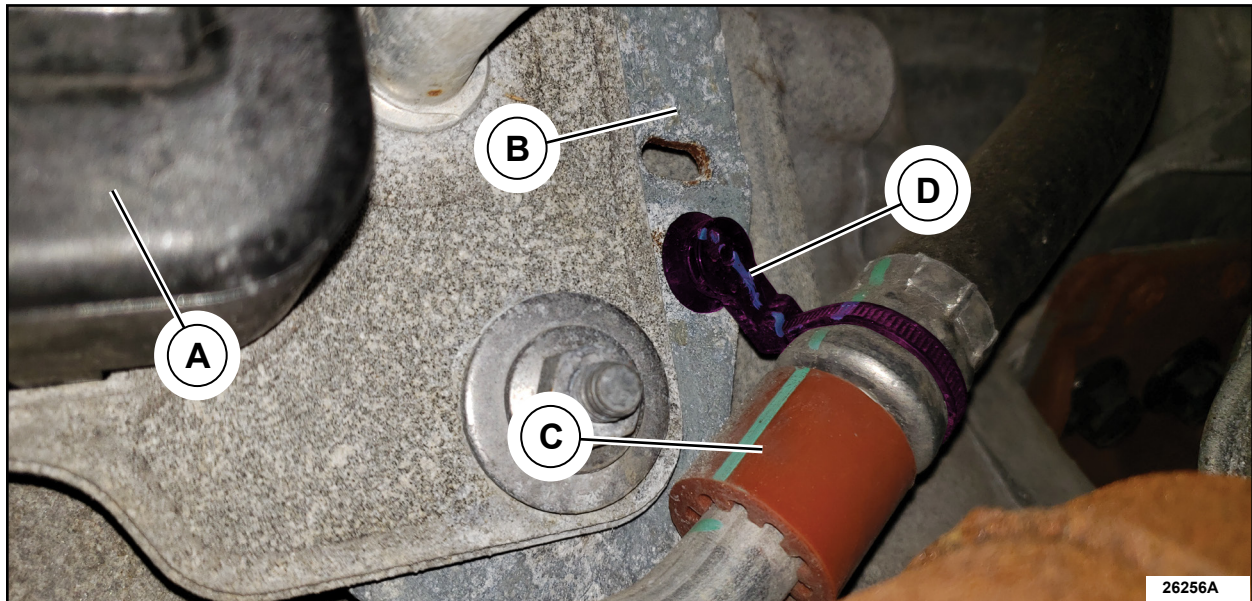

FIGURE 1
2. Visually inspect the transmission fluid cooler coolant hose push-pin retainer. See Figure 1.